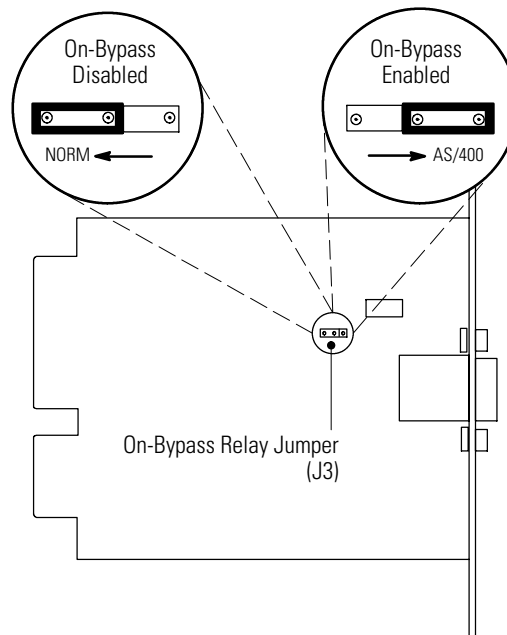

Figure 24. On-Bypass Relay Jumper
2. Move the J3 jumper to the AS/400 position to enable the On-Bypass relay as shown in Figure 24.